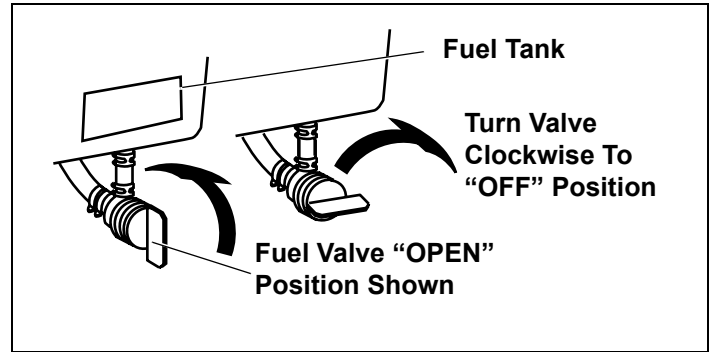

Figure 25. Fuel Valve Positions
2. Be sure fuel valve, if present (see equipment manufacturer’s instructions) is open and all switches are on. See Figure 25.